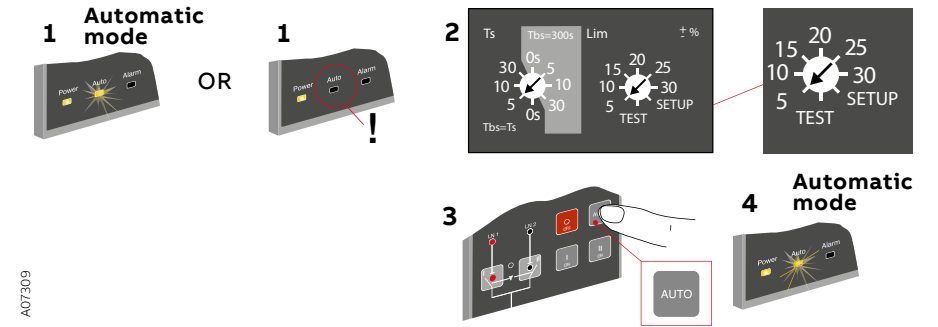

Figure 4.12 Selecting the automatic control units OMD100, OMD200 and OMD300 to Automatic Mode
5. Set device to AUTO mode according to the Figure 4.12.